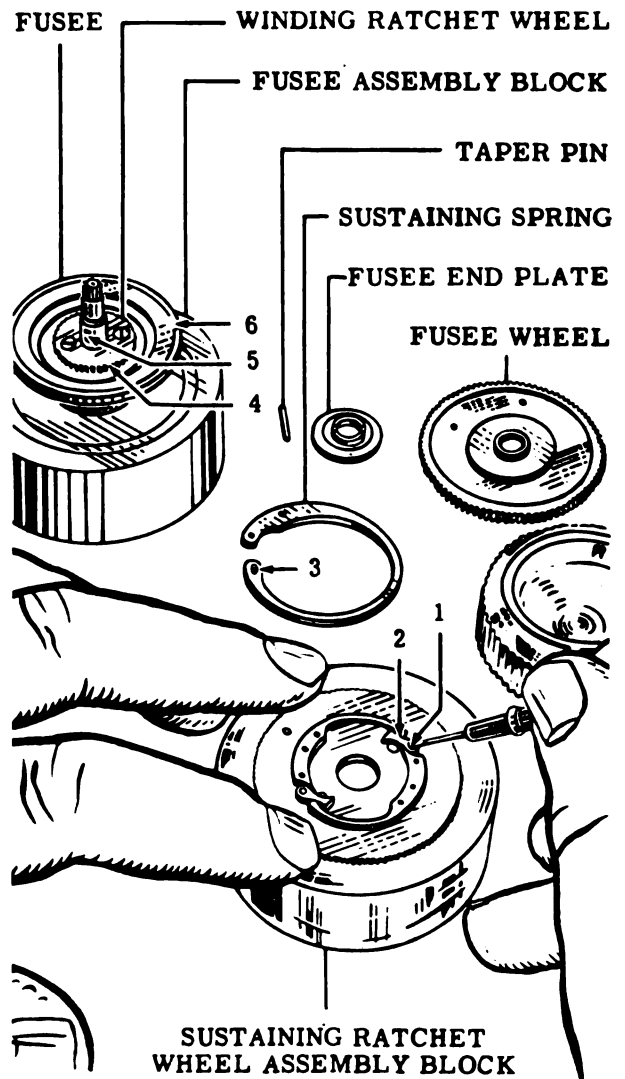
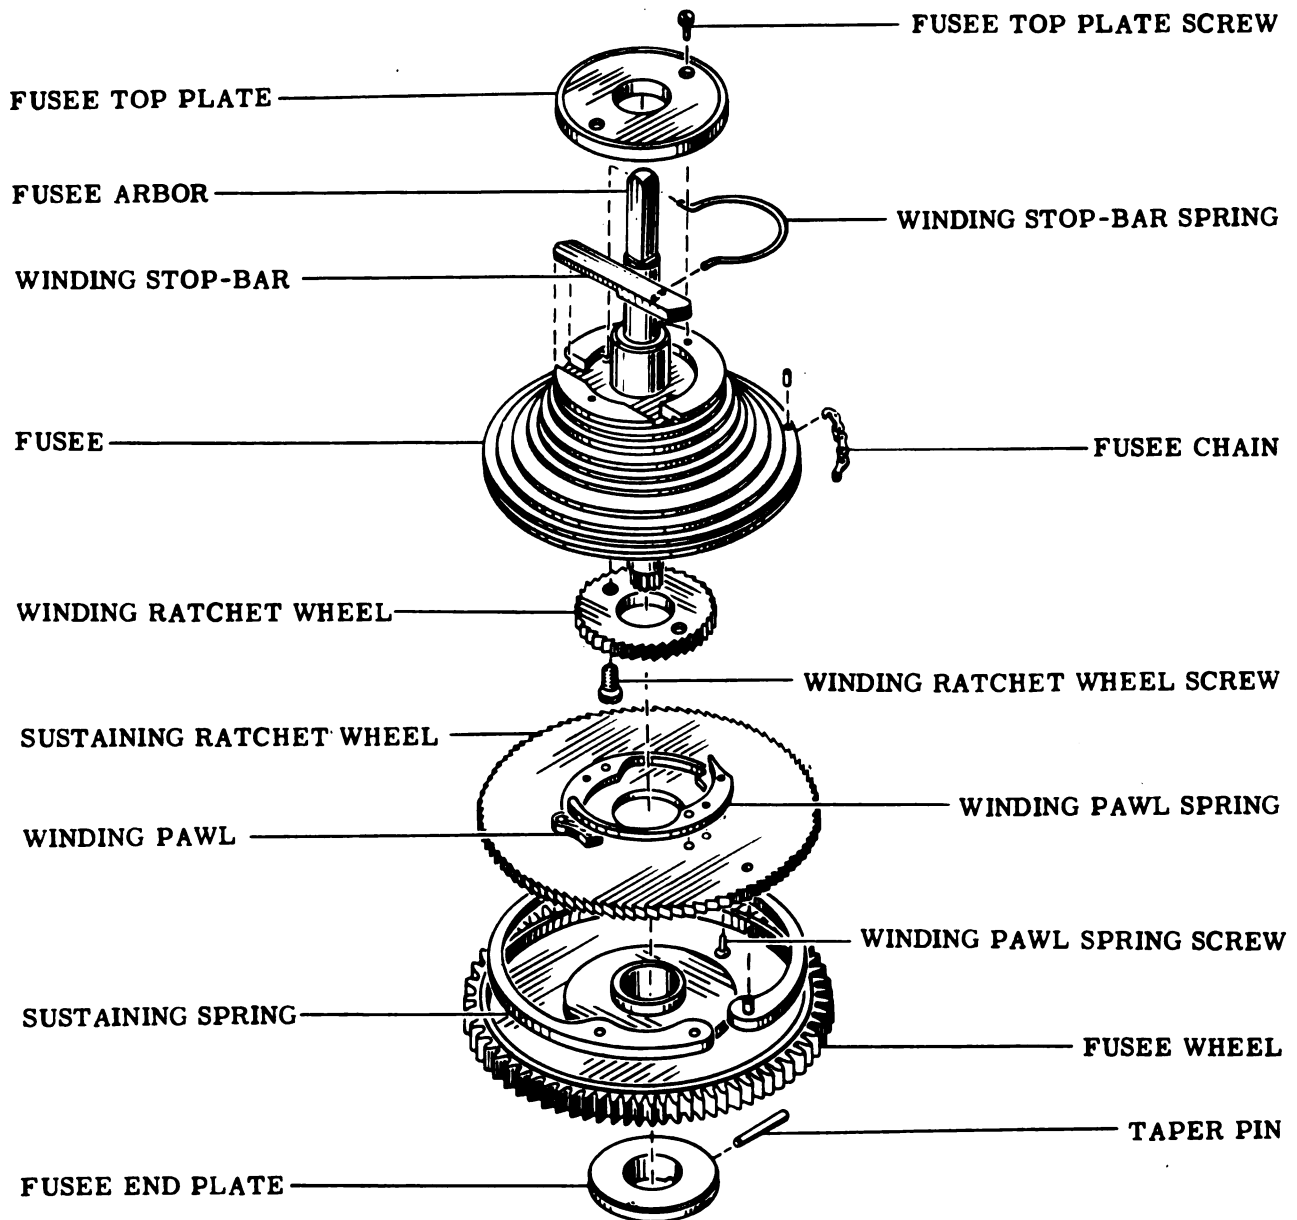
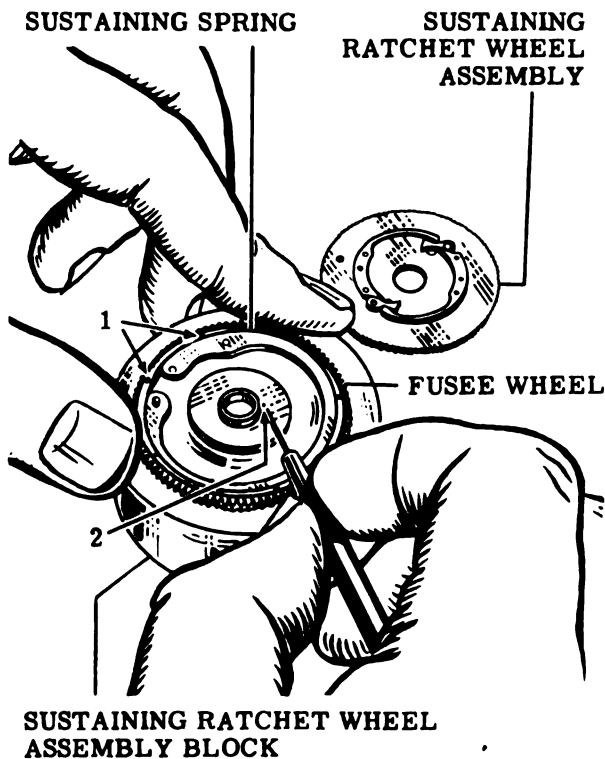

Figure 69
Figure 70
Figure 71
16. Place fusee, complete with arbor, square end down on fusee assembly block, Tool No. 53. See Fig. 69 for proper position.
17. Attach fusee winding ratchet wheel to fusee with two screws. Fig. 69 shows the ratchet assembled. Also see Fig. 70.
13. Assemble winding pawl springs to sustaining ratchet wheel with four winding pawl spring screws, using sustaining ratchet wheel assembly block, Tool No. 51. Apply drop of red oil to each post of winding pawls as shown in Fig. 69, arrow No. 1. Grease pawl springs where they contact the pawls. Arrow No. 2.
19. Place spot of grease on the bottom of the working end of the sustaining spring. See Fig. 69, arrow No. 3. Locate sustaining spring in fusee wheel. See Fig. 71 for proper position. Also refer to Fig. 70.
20. Put six drops of grease on the lip of the fusee wheel (see Fig. 71, arrow No. 1), and a small amount of grease on the outside of the hub (see arrow No. 2).
21. Lightly grease the teeth of the winding ratchet. See arrow No. 4 in Fig. 69.
22. Grease fusee arbor above ratchet wheel. See arrow No. 5 in Fig. 69.
23. Grease elevation at outer rim, on top of fusee (as viewed with fusee on the assembly block). See arrow No. 6 in Fig. 69.
24. Place the sustaining ratchet wheel on the fusee, using care to see that the pawls are properly positioned. See Fig. 70 for relationship of parts.
25. Put the fusee wheel in place on the fusee. See Fig. 70.
27. Install fusee end plate. Refer to Fig. 70.
28. Install taper pin, inserting in the arbor hole at the end having larger diameter. Refer to Fig. 70. The end plate is marked on the side from which the taper pin should be inserted.
32. Install fusee top plate with two top plate screws. See Fig. 70 for proper position. Check freedom of the winding stop-bar.